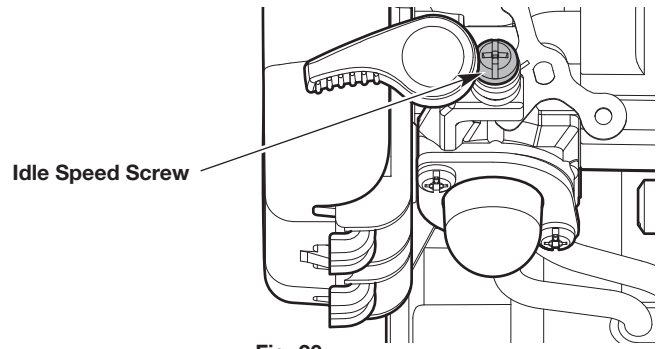

Fig. 20
- If the engine stops, increase the idle speed. Use a small Phillips screwdriver to turn the idle speed screw clockwise, 1/8 of a turn at a time, until the engine idles smoothly (Fig. 20).
- If the cutting head spins when the engine idles, reduce the idle speed. Turn the idle speed screw counterclockwise, 1/8 of a turn at a time, until the cutting head stops moving (Fig. 20).